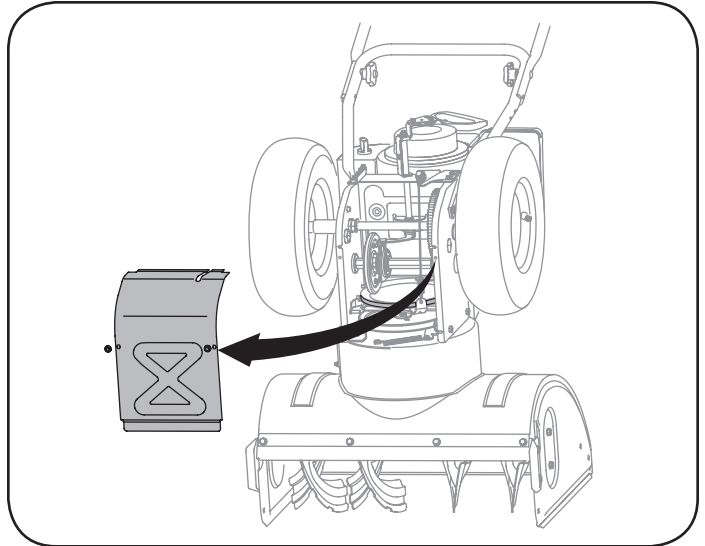

Figure 22
5. Remove the frame cover from the underside of the snow thrower by removing four self-tapping screws which secure it. See Figure 22.
5. Remove the frame cover from the underside of the snow thrower by removing four self-tapping screws which secure it. Refer to Figure 22.